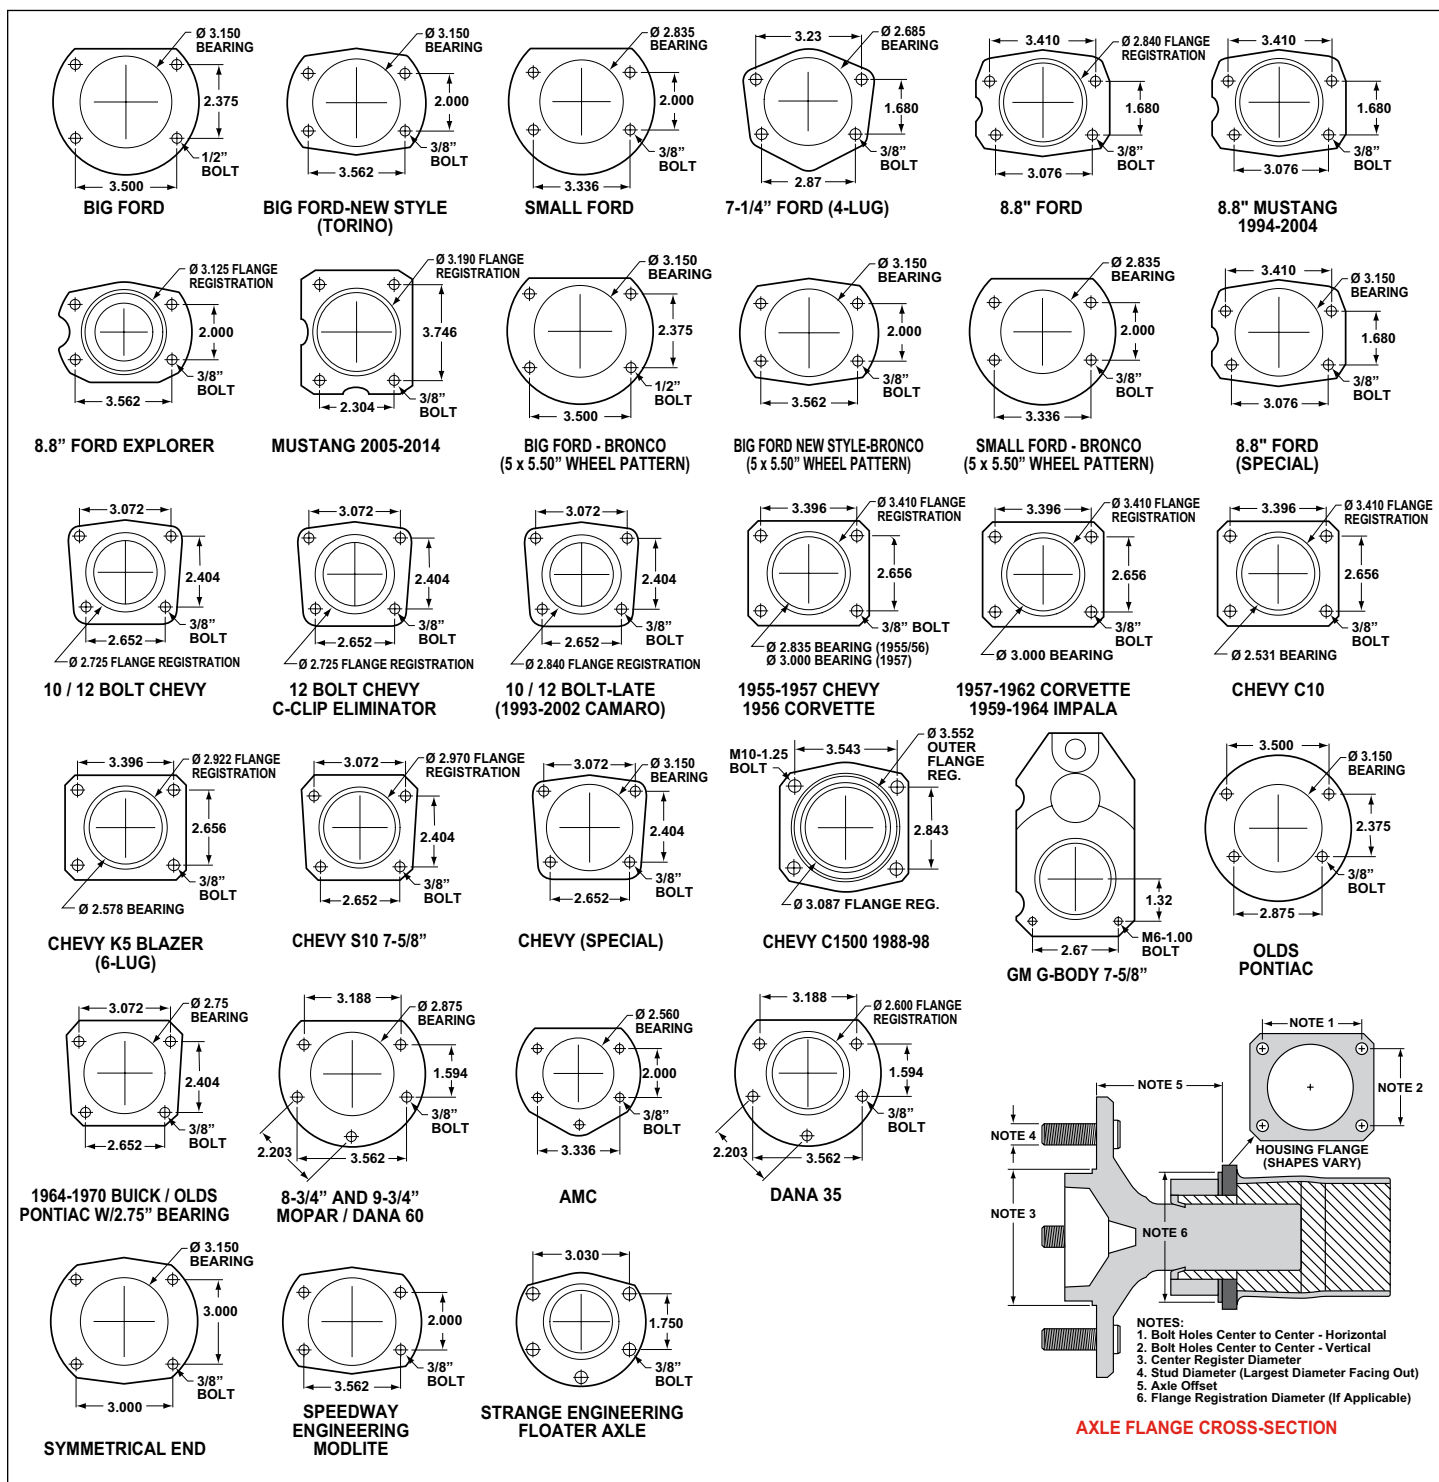

Figure 5. Rear Housing Flange Chart and Axle Flange / Offset Cross-Section
•Make sure this is the correct kit to fit the axle housing flange, not necessarily the rear end make. Many times aftermarket manufacturers put a different make of axle housing flange on the stock rear end housing (Figure 5). Example; Big Ford rear ends with Olds-Pontiac flanges, therefore, an Olds-Pontiac rear disc brake kit would be the correct kit to order.
- Dimension from wheel side of axle flange to wheel side of axle housing flange (see Figure 5, lower right hand corner). This dimension is critical to ensure proper alignment of the rotor to the caliper, and should match offset given in the kit description.